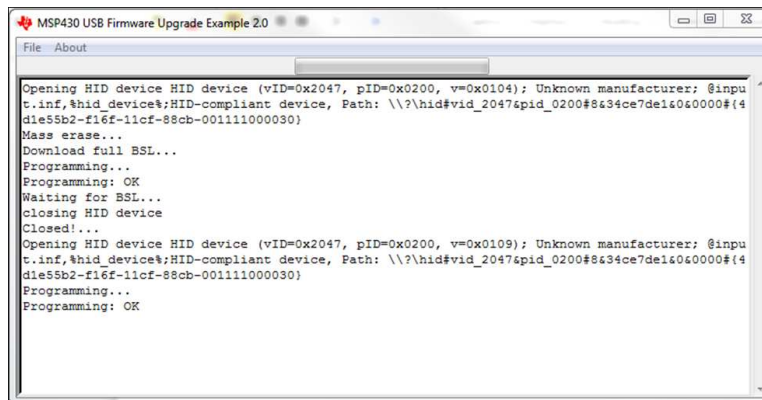

Figure 13. MSP430 USB Firmware Uploader Programming Sequence
6. Go to *file* and select *open user firmware* to locate the text image file (Figure 13 shows an example of a successful firmware update process).